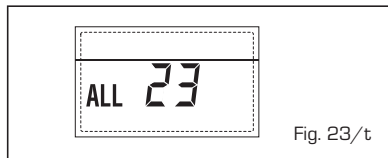

Fig. 23/t
**- ERROR SOLAR APPLICATION COMPATIBILITY "ALL 27" (fig. 23/21)**